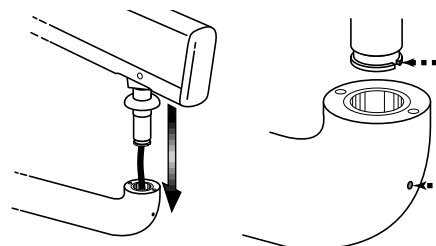
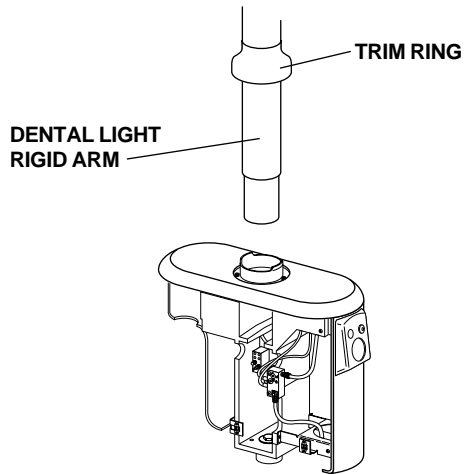

FIGURE 10
FIGURE 11
4. Insert the rigid arm in the center hole of the post box (see Figure 11). *Cascade Master Dental Light*, see **NOTE** and Figure 10 before installing the light to the post box.